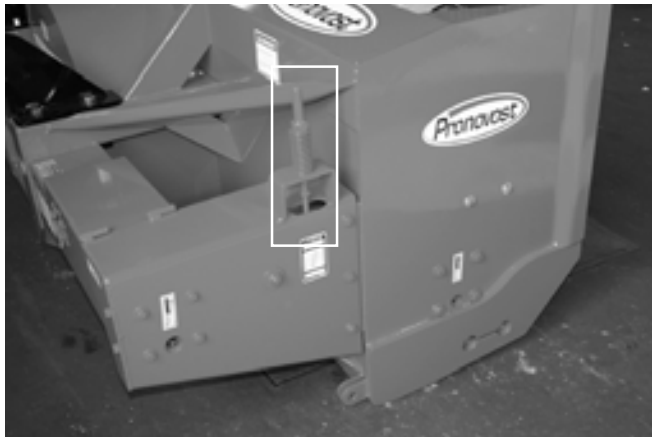

Figure 17
- 3) Check chain take-up adjustment. The spring maintaining the tension must be compressed to a length between 3" and 3 1/4" (Fig. 17).